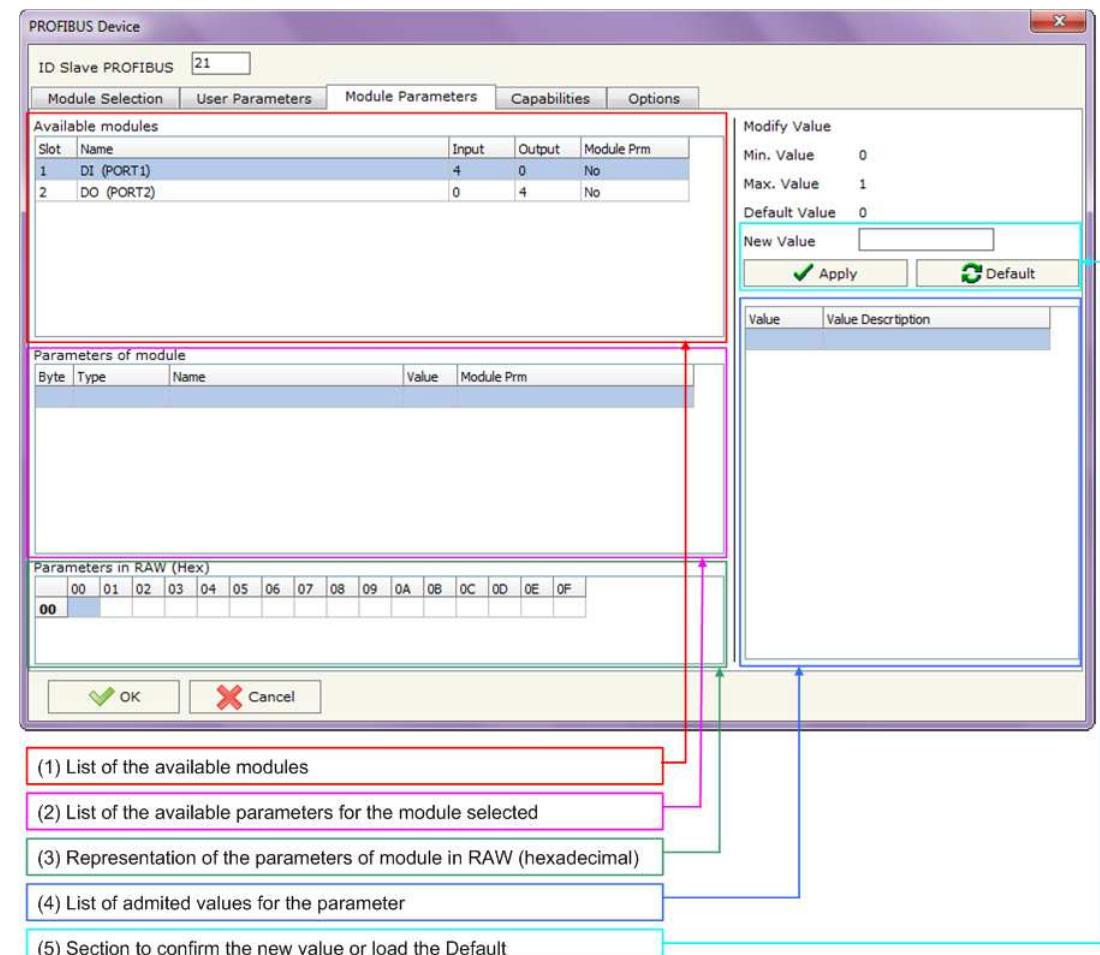

Figure 15: “PROFIBUS Device – Module Parameters” window
The section “**Module Parameters**” is used to modify the parameters of the Modules (Fig. 15).
- ❖ The List of all Module selected in the GSD file (“Available modules”) (Fig. 15, point (1));
- ❖ The List of all Parameters available for the Module selected (“Parameters of module”) (Fig. 15, point (2));
- ❖ The Configuration of all parameters in RAW for the Module selected (“Parameters in RAW (Hex)”) (Fig. 15, point(3));
- ❖ The admited value for the selected parameter. It is possible to select the value desired and confirm it with the “**Apply**” button. If no value appears in this table, the “Min Value” and “Max Value” are the limit of the parameter. (Fig. 15, point(4));
- ❖ The “**Apply**” button is used to confirm the new value of the parameter, the “**Default**” button is used to load the factory value for the parameter. In “**New Value**” edit box it is possible to set the new value. (Fig. 15, point(5)).